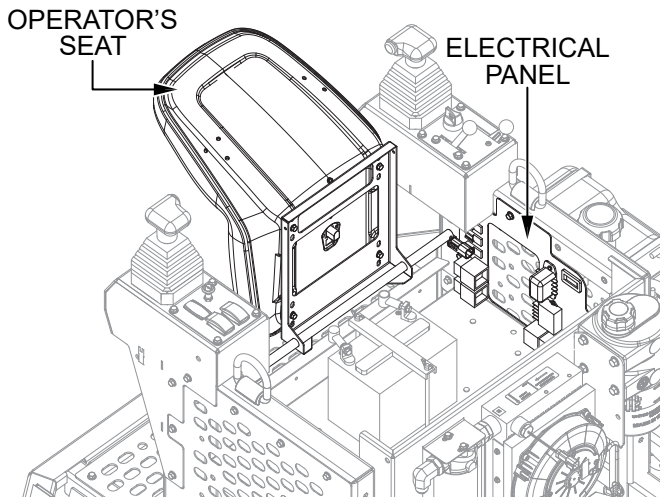

Figure 10. Locate Electrical Panel
- With the operator's seat tilted forward, locate the electrical panel (Figure 10).